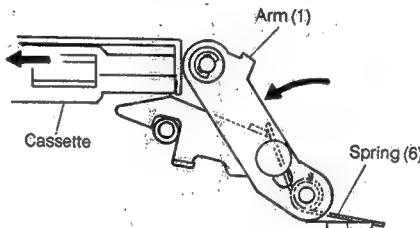

Fig. 15
5. With this, Arm (1), through Spring (6), starts to rotate in the arrowed direction and push out the cassette (see Fig. 15).